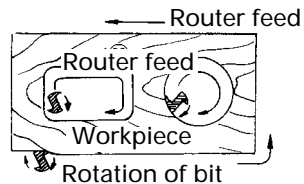

Fig. 15
- (2) The bit rotates clockwise (arrow direction indicated on the base). To obtain maximum cutting effectiveness, feed the router in conformance with the feed directions shown in Fig. 15.